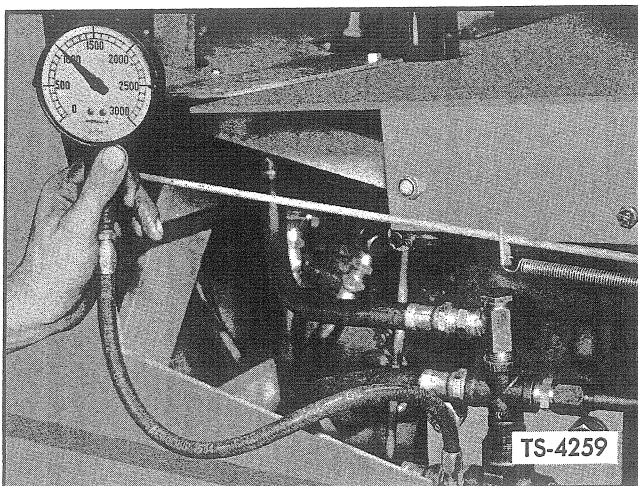

Fig. 30. Check Pressure — Steering Pressure Relief Valve
1. Use a hydraulic pressure gauge of at least 3000 psi capacity. With engine shut down, remove plug on side of relief valve and connect gauge as shown in Figure 30.